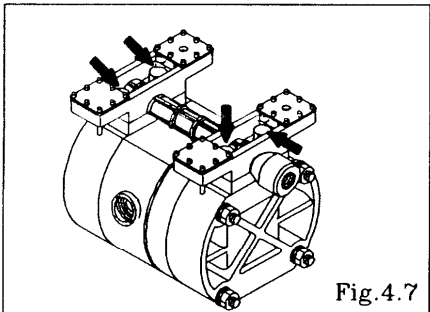

Fig.4.7
- Turn over the main body assembly. [Fig.4.7]
- Remove the 4 retainer bolts from the in manifold, and remove the base and in manifold. (ALE-15) [Fig.4.7]